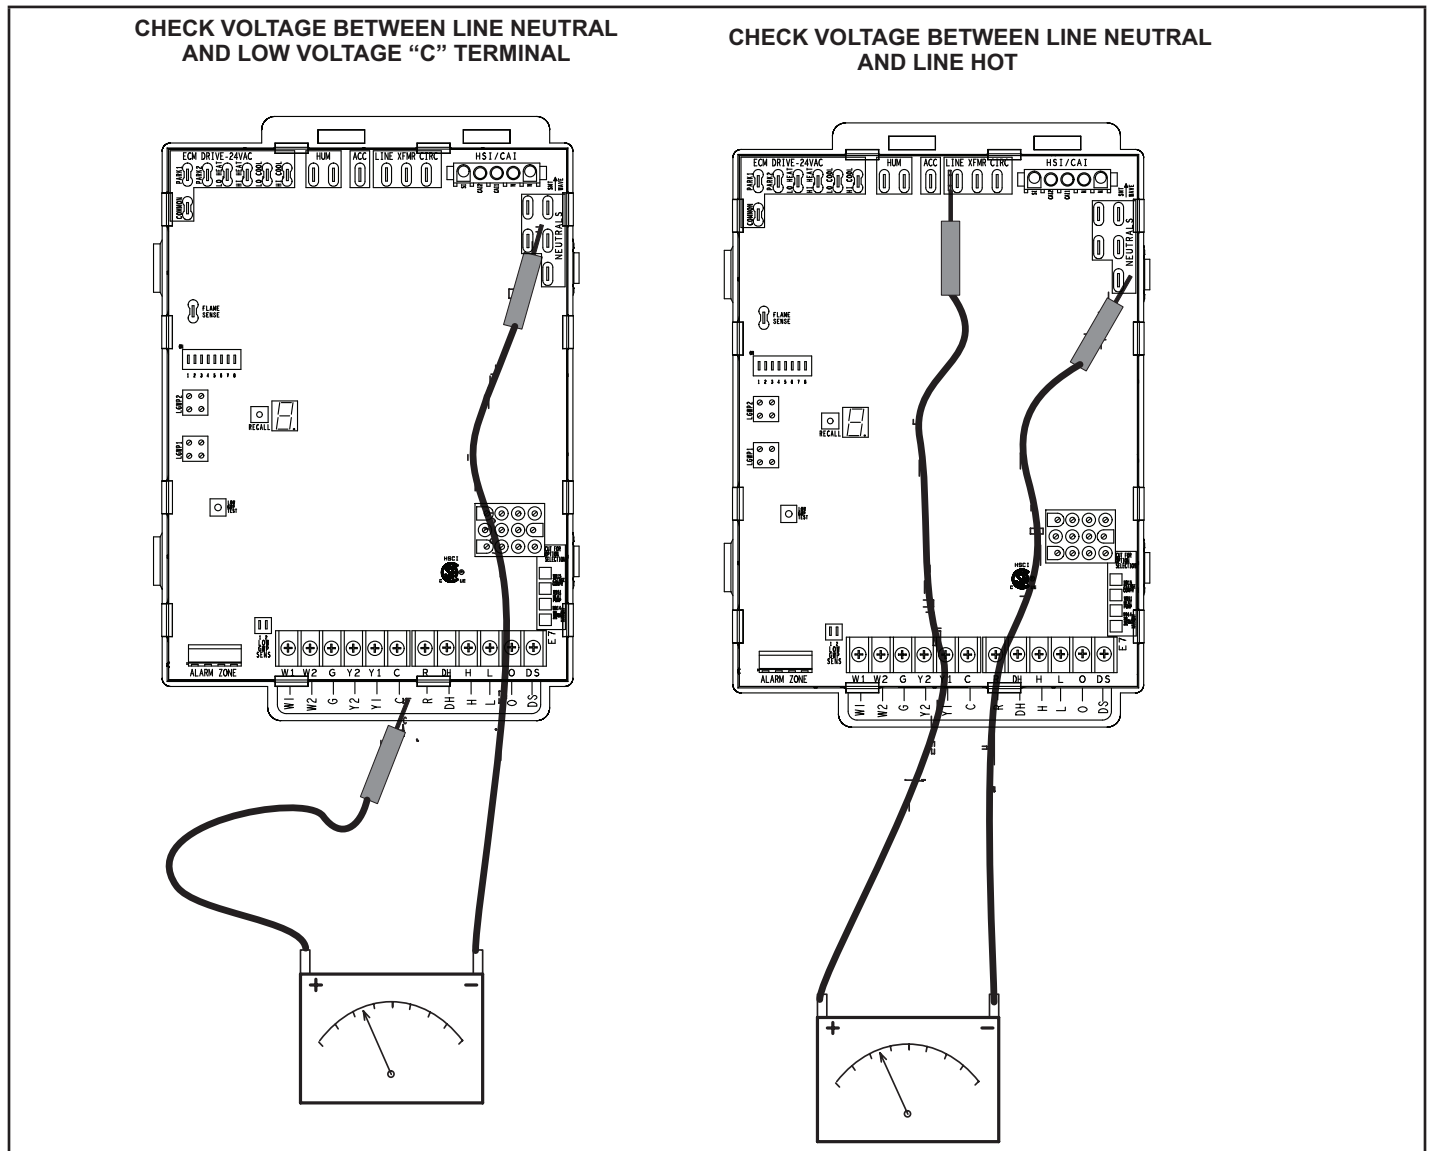

FIGURE 20
- 1 - Measure the AC voltage between Line Neutral (spade terminals) and "C" terminal (low voltage terminal block) on the integrated control. See FIGURE 20. A wide variation in the voltage between Line Neutral and "C" as a function of load indicates a poor or partial ground. Compare the readings to the table below. If the readings exceed the maximum shown in TABLE 18, make repairs before operating the furnace.
- 2 - In addition, measure the AC voltage from Line Hot to Line Neutral (spade terminals) on the integrated control. See FIGURE 20. This voltage should be in the range of 97 to 132 Vac.